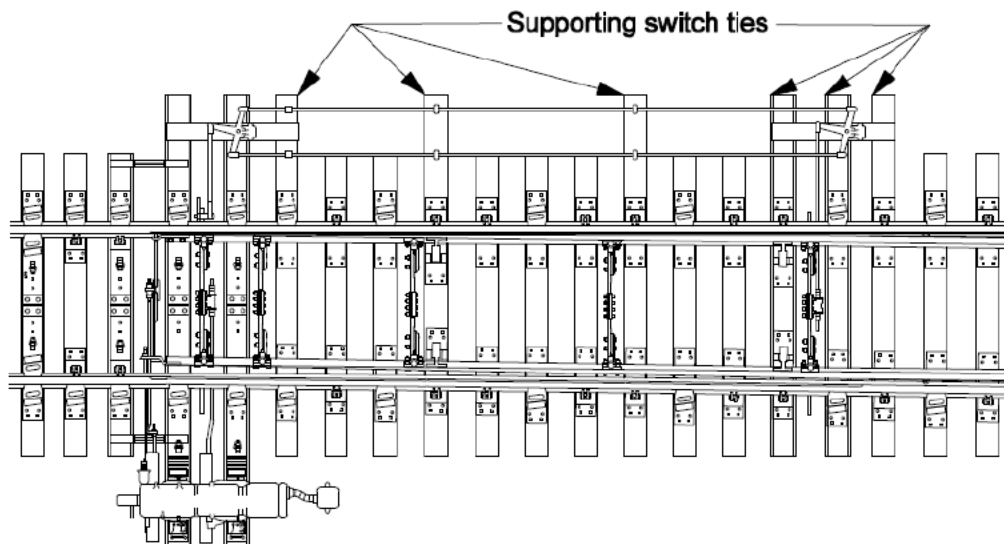

Figure 3.1.4-A
- Switches size 20 and greater often utilize helper rods to assist with throwing the switch as shown in Figure 3.1.4-A. Use the standard drawing for the turnout and consult with the signal group to assist with the installation location for helper rod supporting switch ties.